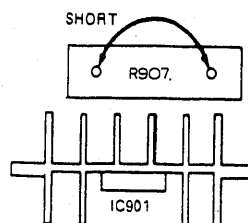

Fig. 2.
4. Set the AC input voltage to 100 volts, and short circuit both terminals of R907as shown Fig. 2.